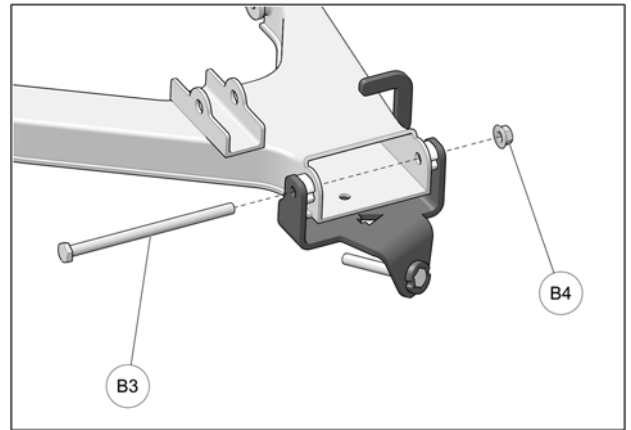

Fig. 8
8. Insert the new M10x170mm bolt (B3) through anchor bracket, suspension arm and wheel knuckle. Secure assembly with the provided M10 nut (B4). Torque nut to 50 N•m [37 lb•ft]. See Fig. 8